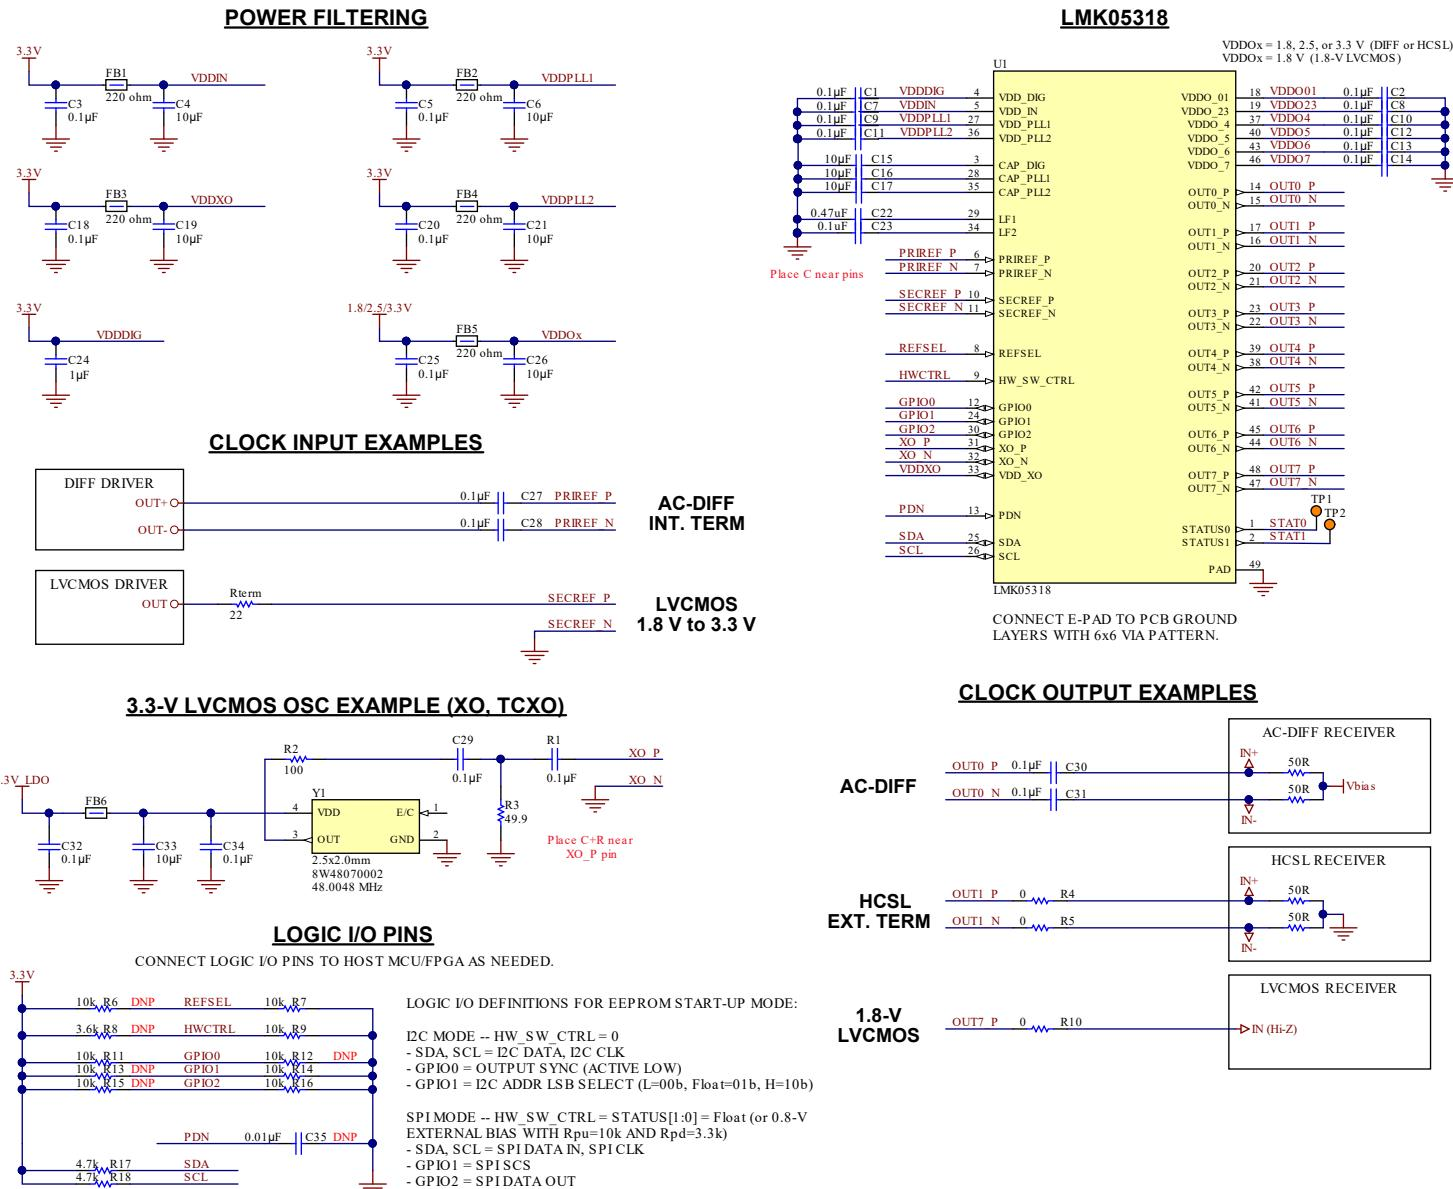

图 10-4. LMK05318B Reference Schematic Example
图 10-4 shows a reference schematic to help implement the LMK05318B and its peripheral circuitry. Power filtering examples are given for the core supply pins and independent output supply pins. Single-ended LVC MOS, AC-coupled differential, and HCSL clock interfacing examples are shown for the clock input and output pins. An external LVC MOS oscillator drives an AC-coupled voltage divider network as an example to interface the 3.3-V LVC MOS output to meet the input voltage swing specified for the XO input. The required external capacitors are placed close to the LMK05318B and are shown with the suggested values. External pullup and pulldown resistor options at the logic I/O pins set the default input states. The I²C or SPI pins and other logic I/O pins can be connected to a host device (not shown) to program and control the LMK05318B and monitor its status. This example assumes the device will start up from EEPROM mode with an I²C interface (HW_SW_CTRL = 0).
- For a 3.3-V LVCMS driver, follow the OSC clock interface example in 图 10-4. Power the OSC from a low-noise LDO regulator or optimize its power filtering to avoid supply noise-induced jitter on the XO clock.
- Reference inputs: Follow the LVC MOS or differential clock input interface examples in 图 10-4 or in 节 9.3.3.
- Clock output Interfacing: Follow the single-ended or differential clock output interface examples in 图 10-4 or in 节 9.3.14.
- Power all the VDD pins with proper supply decoupling and bypassing connect as shown in 图 10-4.